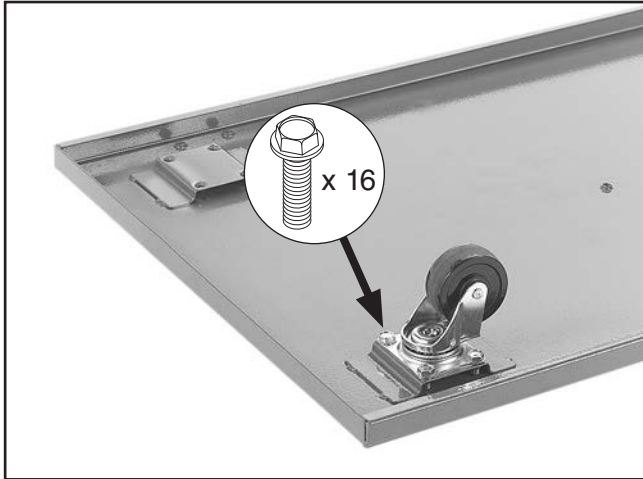

Figure 11. Caster installed onto the base.
2. Attach the casters to the base with (16) $\frac{5}{16}$ "-18 x $\frac{1}{2}$ " flange bolts, as shown in **Figure 11**.